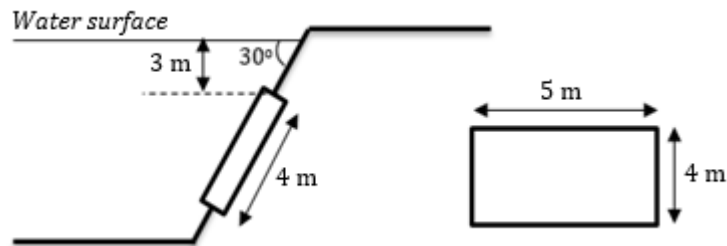

Figure 5
5. By referring to the water gate as shown in figure 5 below, calculate the height from the centre of gravity to the water surface. (Ans: 4 m)